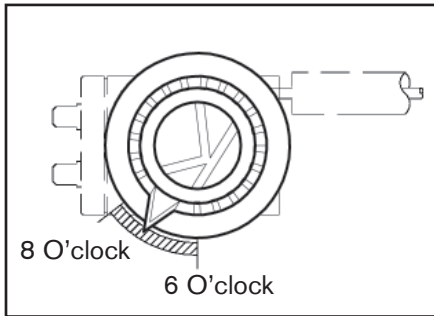

Figure 1
- 8. The knob pointer should be pointing in the marked area shown in the diagrams in Figure 1. MAKE SURE TO LOCATE YOUR THERMOSTAT PART NUMBER (on other side) AND USE THE CORRECT FIGURE.
- 10. For the following Fryer thermostats, use Figure 1:
- 11. For the following Griddle thermostats, use Figure 1: